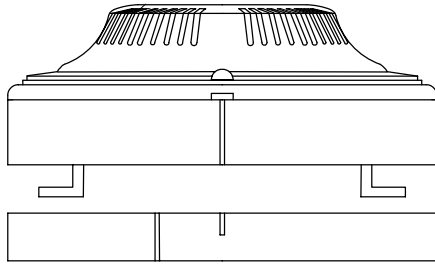

Figure 3 Alignment of detector head and its base
- (2) When using the jump wires to check the connectivity for each gas detector in the circuit loop (e.g. connecting point 2 and point 3 with a jump wire as shown in Figure 3), be sure to remove all the jump wires before attaching the detector head onto the base.
- (3) Be sure that the components used in the circuit loop as shown in Figure 3 should be coupled up with those components used in the transceiver circuitry of the control panel.
- (4) The base is allowed to be installed within an available wiring box including octagon box (3", 3.5", or 4"), circular box (3") and rectangular box (4" long), without using any other additional mechanical adapters.
- (1) Align up the position of head to the base, see Figure 3.
- (2) Screw the detector head into the base in clockwise direction.